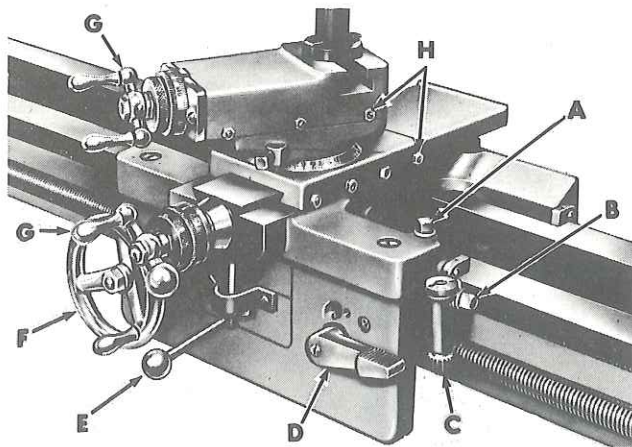

Figure 11
HANDWHEEL (F, Fig. 11) manually moves carriage along the lathe bed.
1. Loosen Gib Screw Lock Nuts (H, Fig. 11).